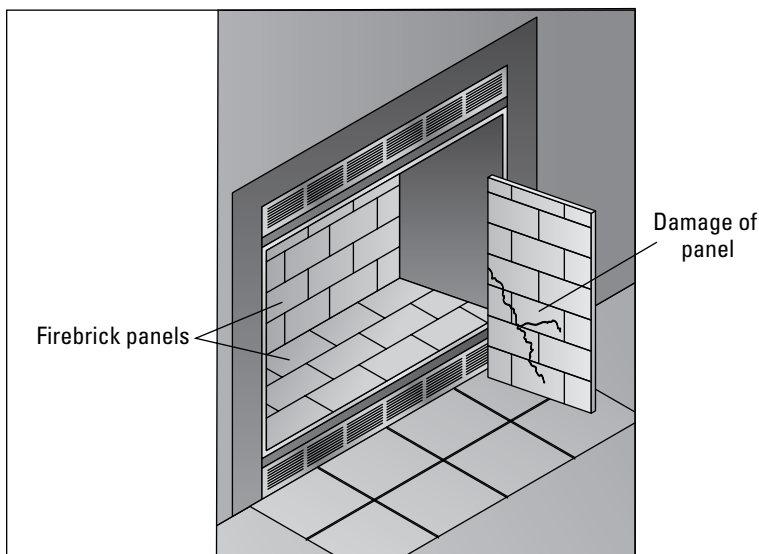

Figure 15-1:
- ✓ A **prefabricated metal fireplace** is installed and assembled on-site. The metal box contains firebrick panels (see Figure 15-1), called *refractory brick panels*, that line the sides, back, and bottom of the firebox. The flue for a prefabricated fireplace consists of a metal pipe that is concealed by a chimney constructed of plywood or another siding material.